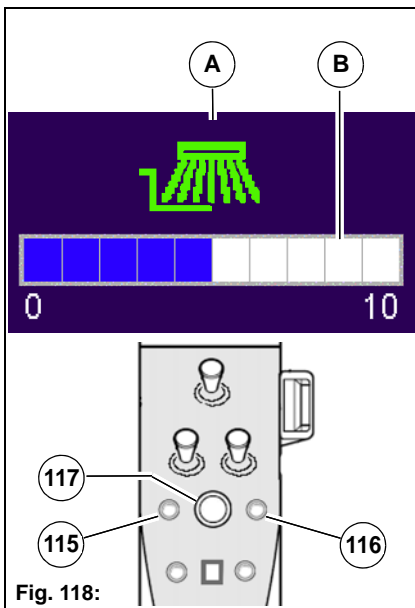

Fig. 118:
- Rotating the turn-push knob **Fig. 118-117** changes the value in the bar chart **Fig. 118-B**. The bar chart is divided into 10 increments.